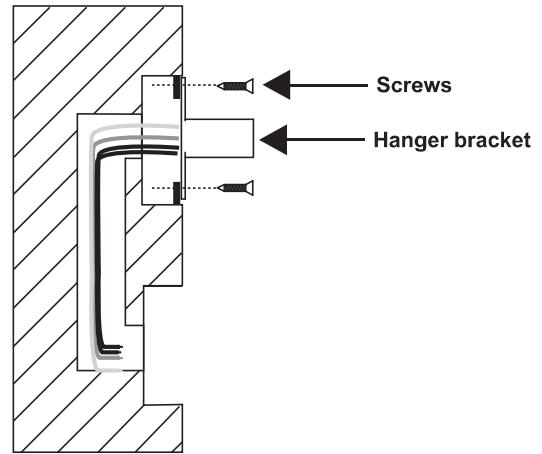

Figure 2
2. Installing the hanger bracket to the junction box with 2 screws provided.(Fig. 2)